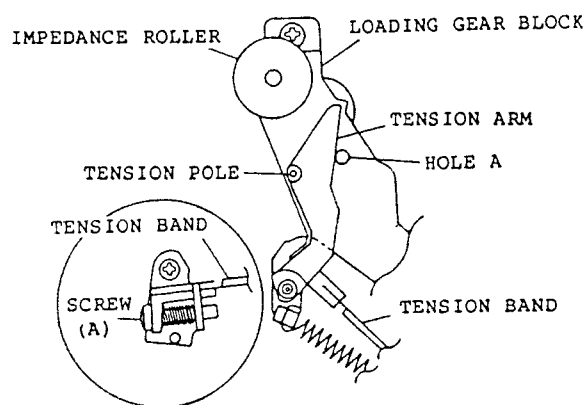

Fig. 3-8
5-1. TENSION POLE POSITION ADJUSTMENT/ TENSION ADJUSTMENT (Fig. 3-8)
- 2) Adjust screw (A) so that the inner flange of the tension arm is aligned with the left edge of hole A in the loading gear block at the start of tape as shown in Fig. 3-8.